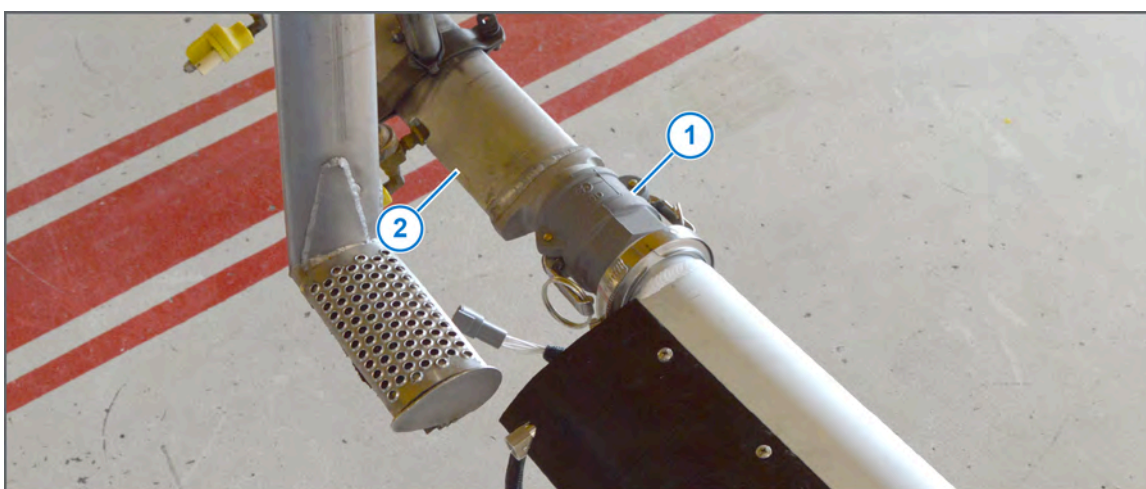

Figure 5: Adjustment to get the Boom Connectors to the Center Boom
5. Adjust the stands vertically, forward/aft, and left/right until the camlock fittings (Figure 5, Item 1) can correctly connect on each boom and the center boom (Figure 5, Item 2).